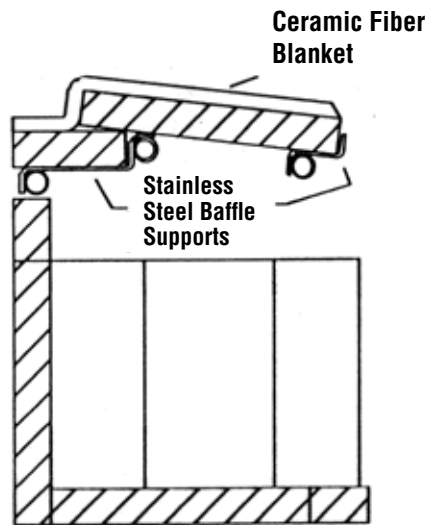

Figure 7
2. Next, install bricks #19 and 20 into the rear stainless steel baffle support (see **Figures 7 and 8** on **Page 12**).
3. Next, install baffle bricks #21-24 by sliding the back of each brick over the center tube and support until the front of the brick clears the front tube and support. Then lift the front of the brick above the front support and tube and slide it forward as far as it can go (very important), it will hit the front of the stainless support when it is fully forward. The rear of the bricks sit on top of bricks #19-20 (*Figures 7 and 8*).
4. Carefully slip the ceramic blanket up over the front of the front stainless support and bricks #21-24. Grasp the edge of the blanket and slide it back until the front of the blanket is flush to the front of bricks #21-24 (*Figure 7*). Shake the blanket gently from side to side to get it to lay flat. Be sure the ceramic blanket is directly on top of the baffle bricks and that it does not hang out past the front of the baffle as shown in *Figure 7*, also see note on *Page 11*.